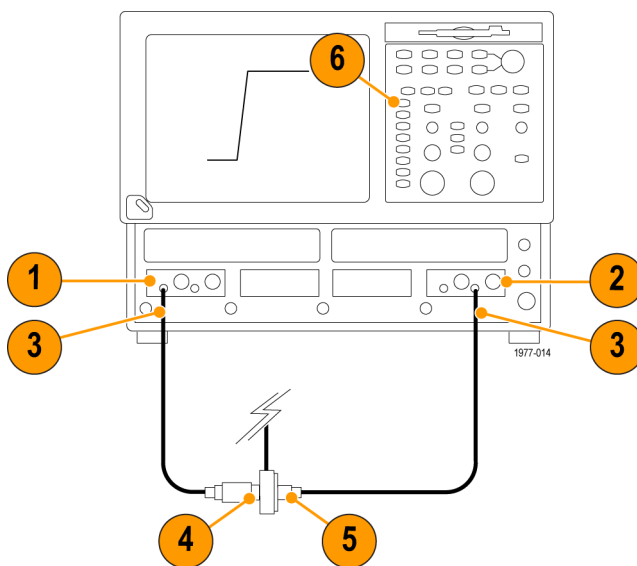

Figure 17: Test system rise time setup
1. Connect the 80E04 sampling head to Channel 1 of the sampling oscilloscope. (See Figure 17.)
11. Adjust the oscilloscope horizontal and vertical position controls to display a signal similar to that shown. (See Figure 17.)